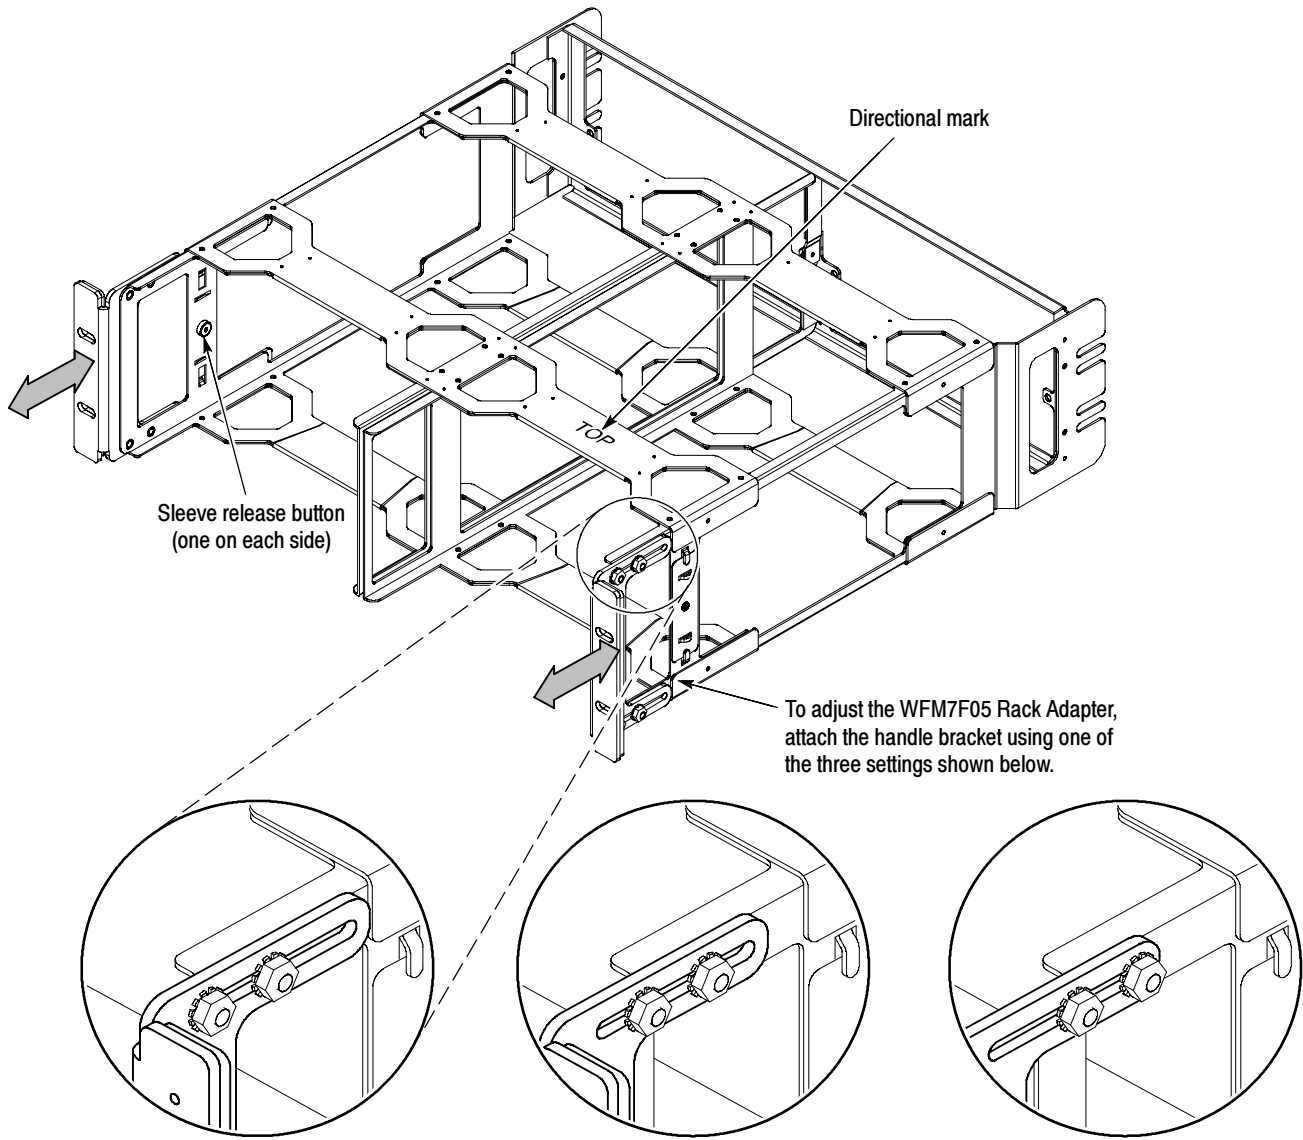

Figure 5: Adjusting the position of the handles
The WFM7F05 rack adapter is marked with the word “TOP” to indicate which side of the adapter should face up (see Figure 5).
1. If the two sleeves (Tektronix part numbers 390-1210-XX and 390-1211-XX) are installed in the rack adapter, remove them as follows: locate the button on the inside front of the rack adapter (see Figure 5) and hold it in while pulling the sleeve forward and out of the adapter.
2. If desired, you can adjust the position of the handle brackets to mount the adapter flush with other equipment in the rack (see Figure 5). To do this, loosen the nuts that attach the handle brackets to the rack adapter, adjust the position of the handle brackets as desired, and then tighten the nuts securely.